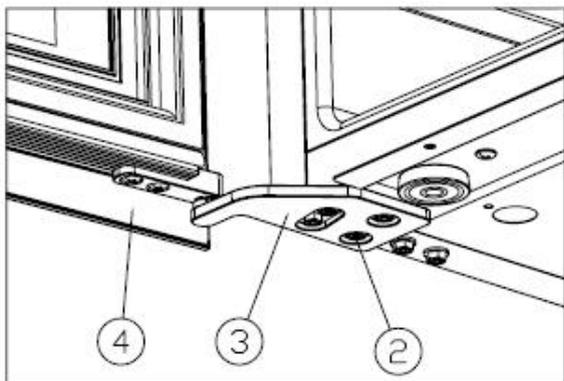

Figure 5
- ✧ Install the right upper hinge ③, and screw tight the M5\*16 screws②.[Figure 5]